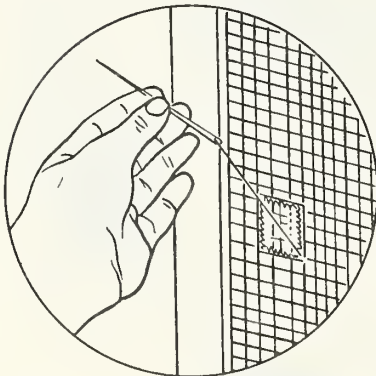

Fig. 6
**Mending**—You can mend small holes by stitching back and forth with a fine wire or a nylon thread. Use a matching color. (Fig. 6)